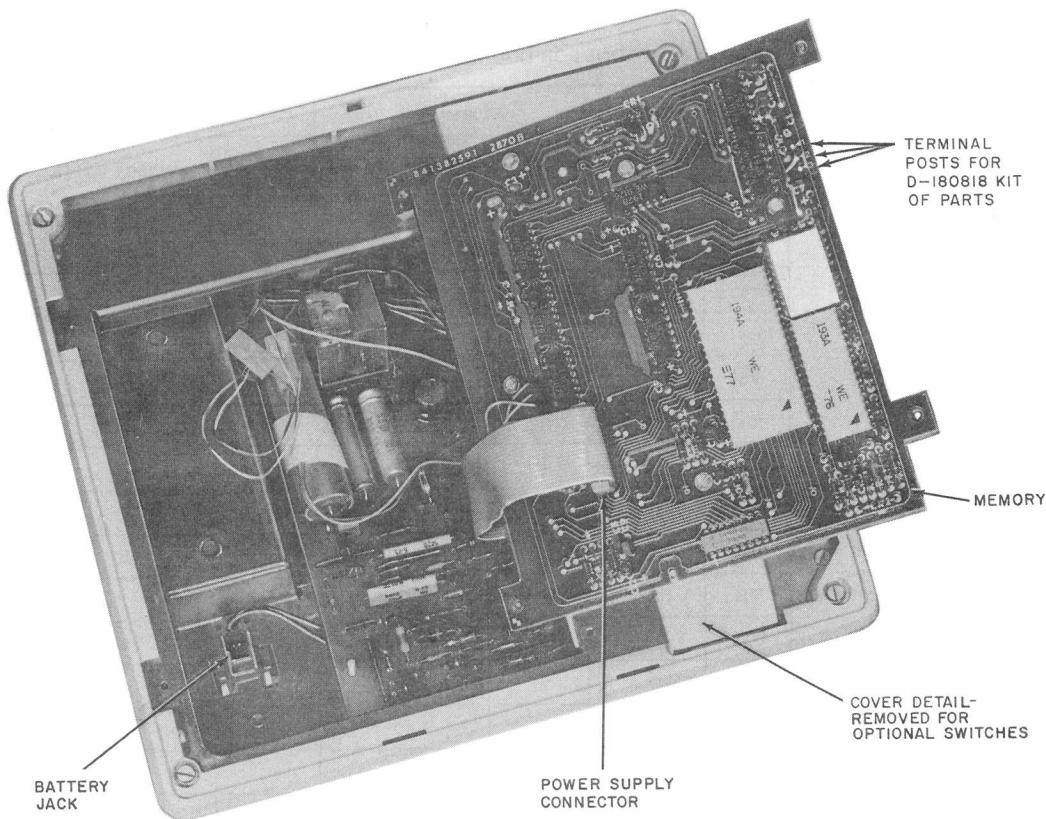

Fig. 4—2870B1M Dial, Internal View
- (5) Rotate the left edge of the memory upward as shown in (Fig. 4).
- (4) Rotate the left edge of the memory upward and over dial area as shown in Fig. 4.
- (5) Disengage the connector(s) by pulling on them perpendicular to the printed wiring board.
- (6) Replace the memory by engaging the dial connector (2870B1M only) first. The connector(s) are keyed, one position is filled and should fit over the vacant position in the row of pins. The flat power supply cable should not be twisted.
- (7) Reassemble adjunct dial.